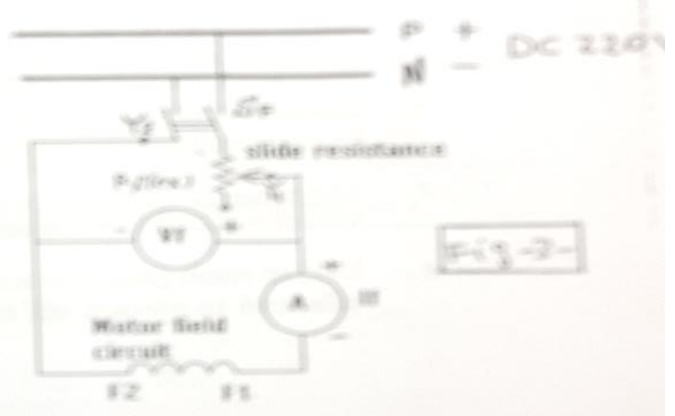

Fig 3
- Construct the wiring diagram of Fig.3.